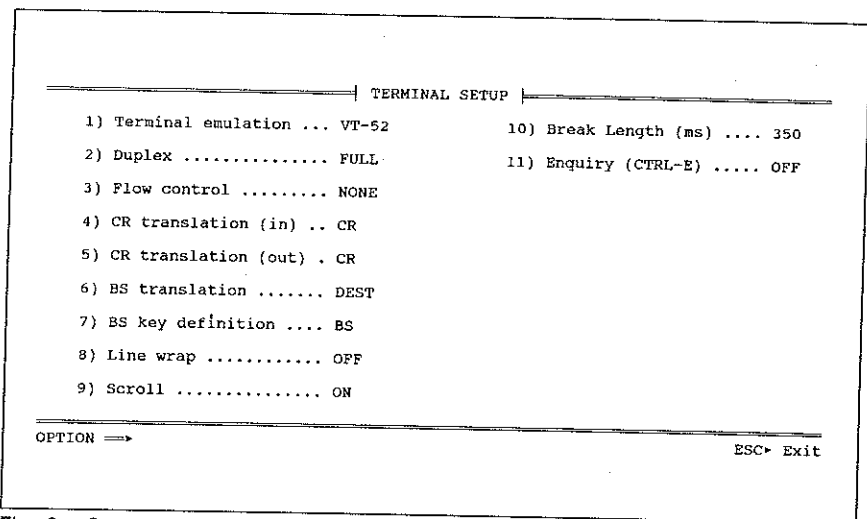
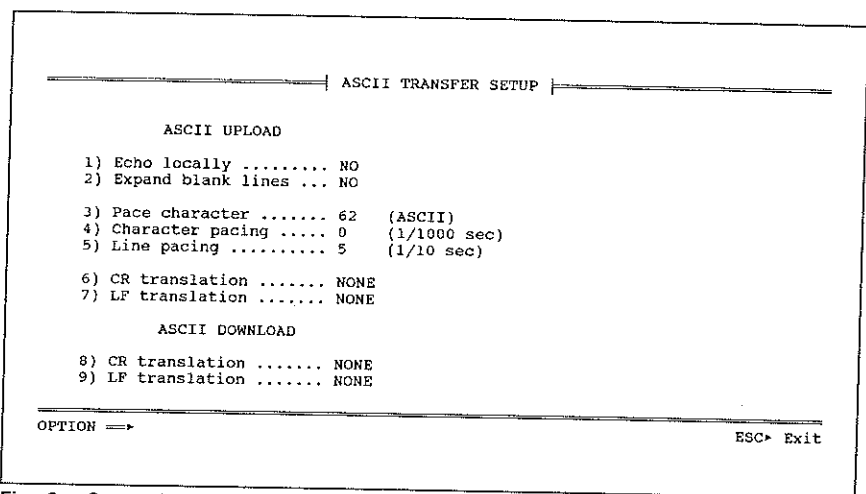

Fig. 2. Screendump of Procomm's terminal setup menu with parameters set for the BASIC computer.
Fig. 3. Screendump of Procomm's ASCII transfer setup menu. Pace character 62 forces the PC to wait for the prompt transmitted by the BASIC computer.
Next, call up the setup screen by typing ALT-S. Select item 2, the terminal setup. The parameters necessary for the BASIC computer are shown in the screendump in Fig. 2. Return to the setup screen, and select item 6, the ASCII transfer configuration. The settings used by the author are shown in Fig. 3. The pace character (option 3) is set to 62 to force the PC to wait